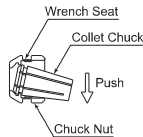

Fig. 5
- ② The collet chuck and chuck nut are secured by a groove in the collet chuck and a flange in the chuck nut. To remove the collet chuck hold the chuck nut in one hand and push diagonally down on the collet chuck. The collet chuck should be released, (Fig. 5)
- ③ Install the new collet chuck in the chuck nut by positioning the collet chuck in the chuck nut and pressing down on a flat surface, (Fig. 5)